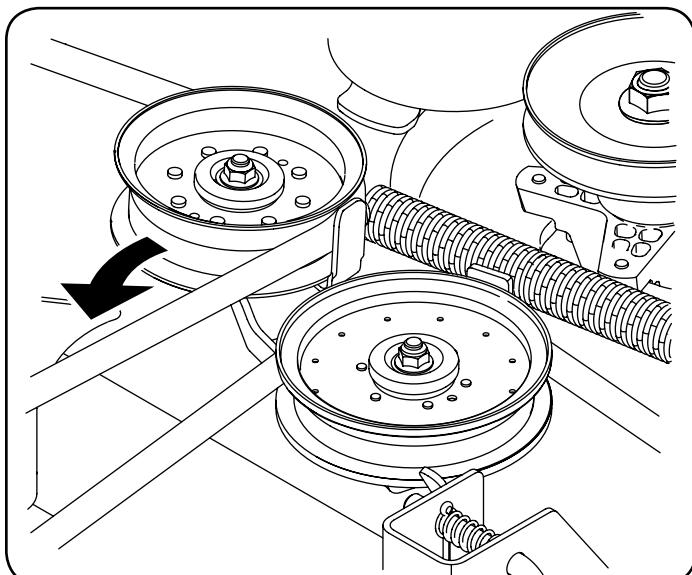

Figure 34
- Working from the middle of the tractor, pivot the idler bracket and movable idler pulley rearward away from the backside of the 'V' belt just far enough to lift the belt up and over the idler pulley. See Figure 34.